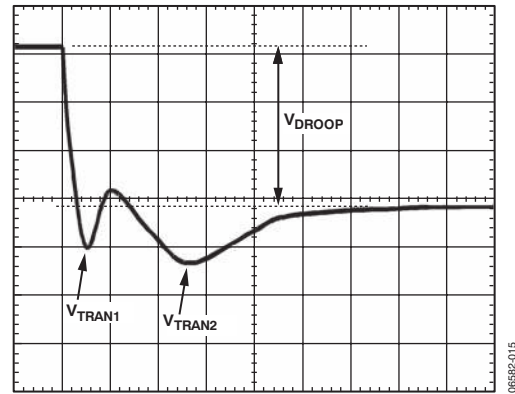

Figure 16. Transient Setting Waveform, Load Step
- Users should see a waveform that is similar to the one in Figure 16. Use the horizontal cursors to measure  $V_{ACDRIP}$  and  $V_{DCDRIP}$  as shown. Do not measure the undershoot or overshoot that occurs immediately after the step.
- With dynamic load still set at the maximum step size, expand the scope time scale to see 2 μs/div to 5 μs/div. A waveform that has two overshoots and one minor undershoot can result (see Figure 16). Here,  $V_{DROOP}$  is the final desired value.